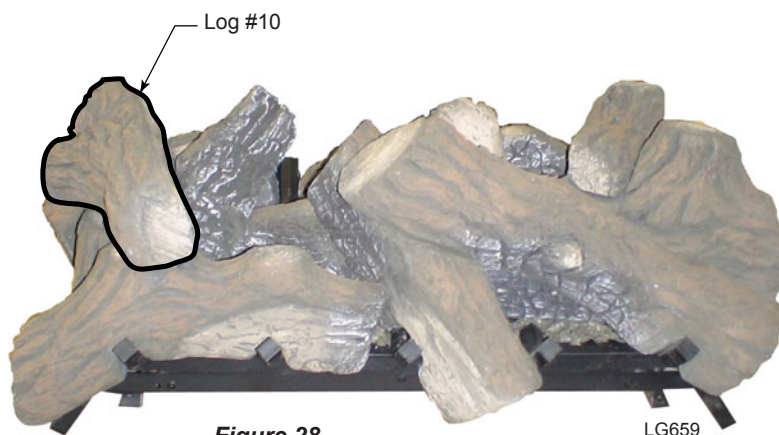

Figure 28 - Place Log #10
10. Place log #10 by aligning two (2) rectangular notches on bottom of log with rectangular protrusions on logs #6 & #7. Make sure the ember or 'burnt' area of log is facing center of burner. *Figure 28*